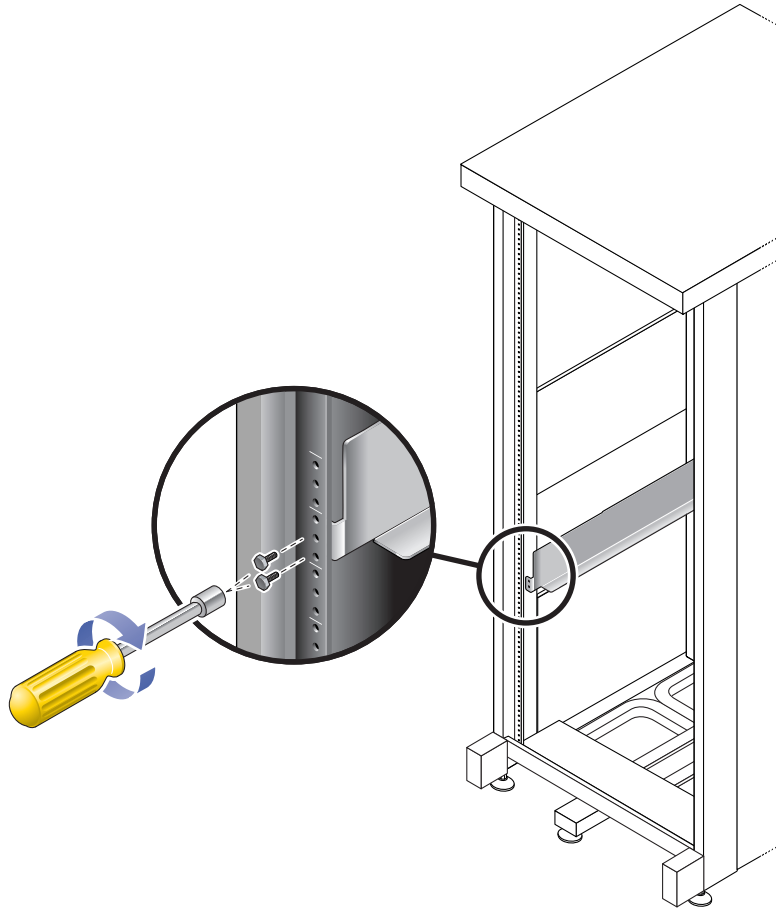

FIGURE 2-7 Securing the Left Rail to the Front of the Cabinet
- b. Use the #2 Phillips screwdriver to insert and tighten the two screws to secure the left rail to the front of the cabinet (FIGURE 2-7).**